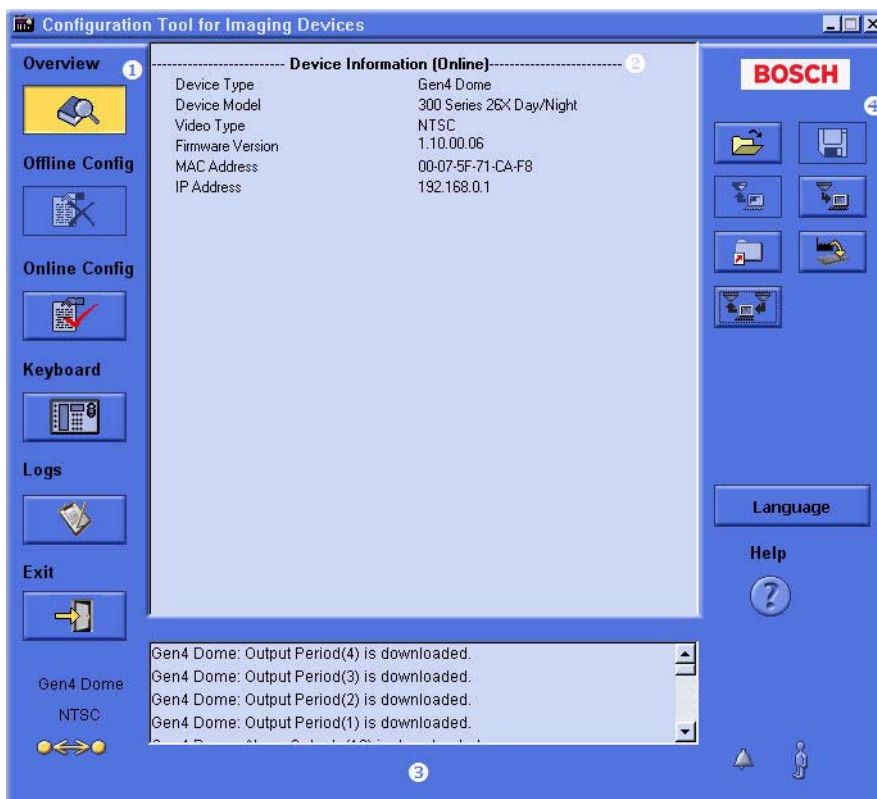

Figure 4.1 Overview/main window
The CTFID main screen contains all the options for changing a template, configuring a live view, displaying specific device information, downloading information, changing device settings, and manipulating a device. By default, the CTFID opens the **Overview** window in the central workspace when started. The main screen is divided into four (4) segments, as illustrated in *Figure 4.1*.
The **Overview** window displays general information about the device, the application environment, and the state of the application. The data includes specific device information (see *Figure 4.1*).